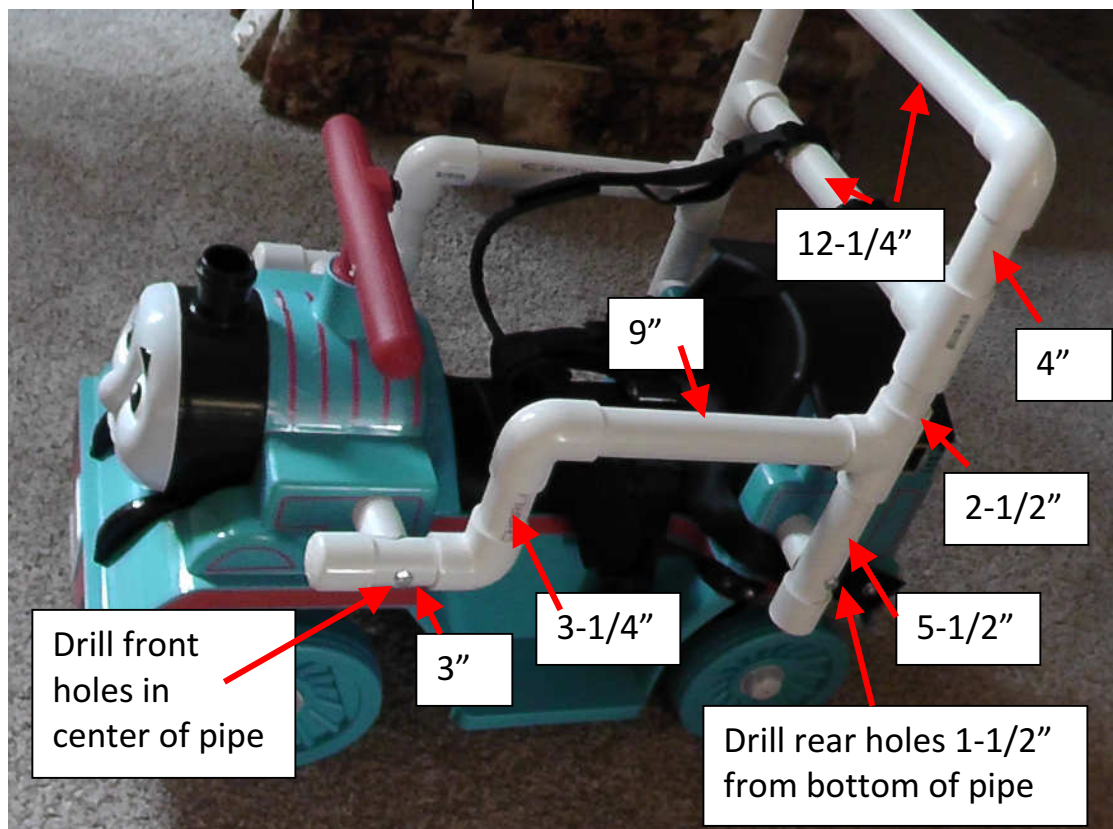

Fig. 21 Frame
42) Assemble the PVC pipes for the frame as shown in **Fig. 21**.
43) Drill four 1/4" holes in the PVC pipes at the points marked in **Fig. 21**. Drill straight through the pipe such that both holes are on exact opposite sides of the pipe.